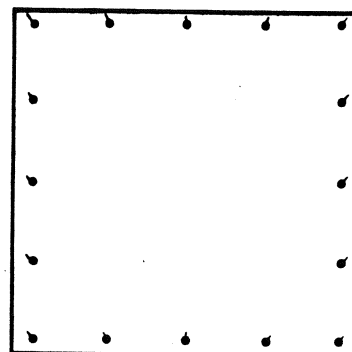

FIGURE 3-7 COLLIMATOR TARGET
3. View the illuminated dots along the top of the collimator target (Figure 3-7). Scan your head left, right, up and down. This is referred to as "scanning the exit pupil". You will see streaks stretch upward from the dots, these V's or 'rabbit ears' change length and direction as the eye is moved. Normally they lengthen as the eye is moved to the extreme portions of the exit pupil, i.e., before part of the field is cut off. (Sources at left (streaks) are longer when the eye moves to the left, etc.) (see Figure 3-7).
your eye to roam over the aperture (exit pupil). It is usually sufficient to pay attention to the lights along the top portion of the field alone. (These lights change the fastest with the mirror motion because the top portion of the mirror is furthest from its pivot point). Adjust the mirror to the least amount of spread or blur. This occurs where there is a small amount of 'rabbit ears' (see Figure 3-7).